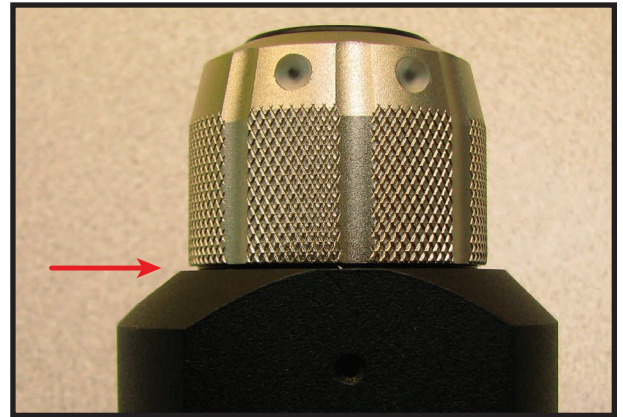

Figure 5: Gap between Knob and Padlock
- 6.3) The knob will lock in place before it is fully seated. When this happens, reinsert the pin as in Step 3.2 to continue screwing on the knob. There should be **NO GAP** between the knob and the padlock body. See Figure 5 for reference of visible gap.